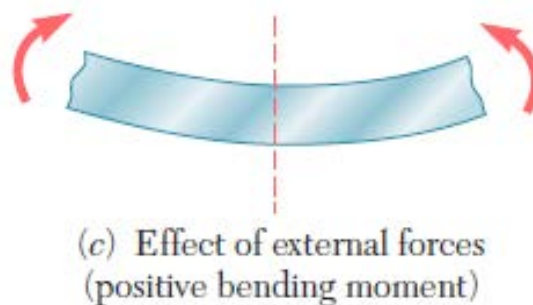

Figure 2.7
- ▶ The bending moment at any given point of a beam is positive when the external forces acting on the beam tend to bend the beam at that point as indicated in Figure 2.7.